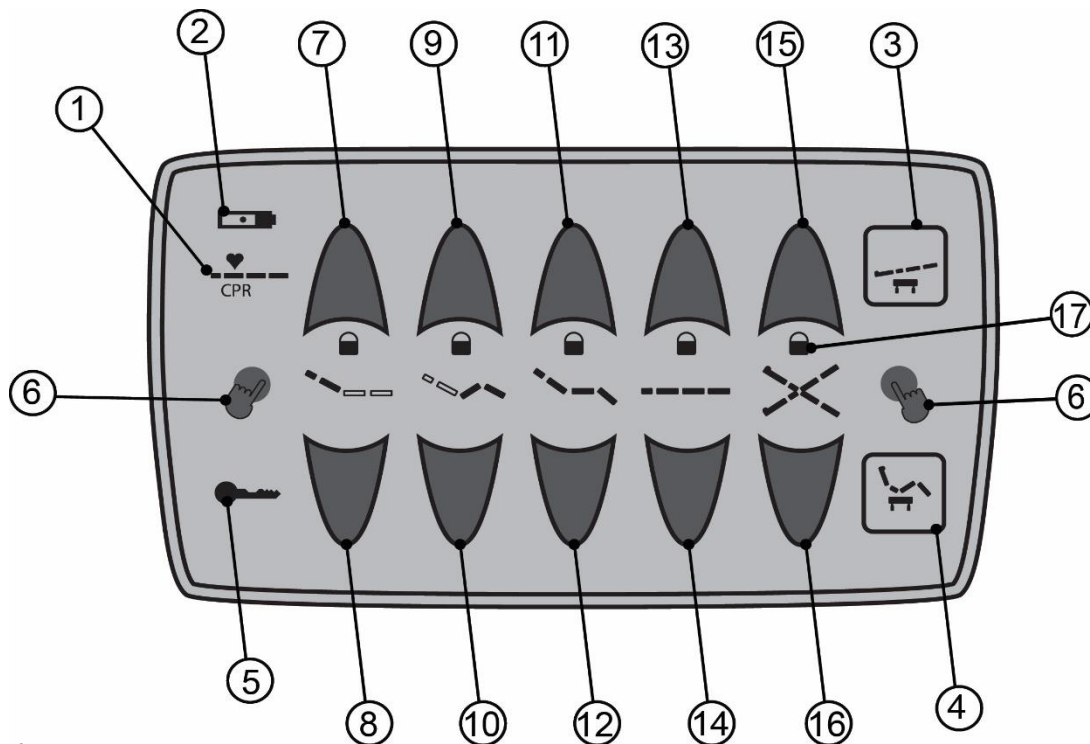

Fig.3
Key to Fig.3
The current battery charge state is displayed via a battery charge indicator on the supervisor control panel (item 2 Fig.3). When charging the battery, the charge indicator should be lit amber. If this is not the case please contact your service representative.
To lock out a function simultaneously press and hold the *patient handset function lockout facility button - master* (item 5 Fig.3) and the *patient handset function lockout facility button - child* (item 5 Fig.3) that corresponds with the function you wish to lockout. A light will illuminate to indicate this function is now locked.
To reactivate this feature simultaneously press and hold the *patient handset function lockout facility button - master* (item 5 Fig.3) and the *patient handset function lockout facility button - child* (item 5 Fig.3) that corresponds with the function you wish to reactivate.
To adjust the height of the bed using the supervisor control panel, press and hold the activation button (item 6 Fig.3) whilst simultaneously pressing one of the height adjustment buttons. (Items 13 or 14 Fig.3)